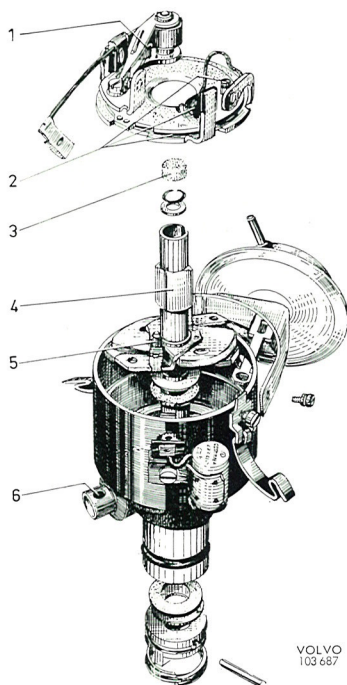

Fig. 3-56. Lubricating scheme for distributor
1. Lubricate the distributor parts according to the instructions given in Fig. 3-56.
4. Lubricate the distributor according to the instructions given in Fig. 3-56.